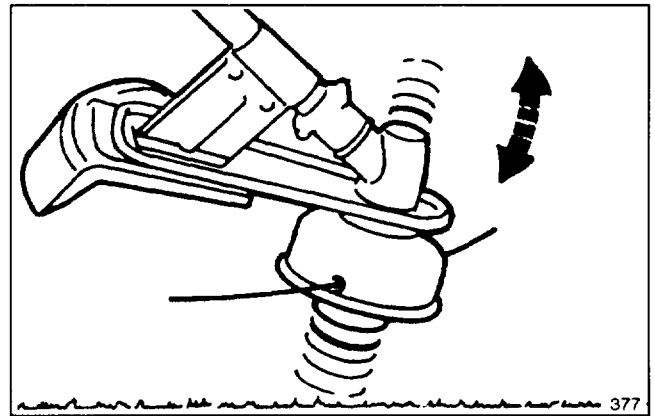

Figure 9
## LENGTHENING CUTTING LINE (Fig. 9)
1. To lengthen lines, firmly tap spool on the ground with the engine running at half cutting RPM (Fig. 9). The lines will be fed from the spool and cut off to the proper length by the cutting knife attached to the shield.